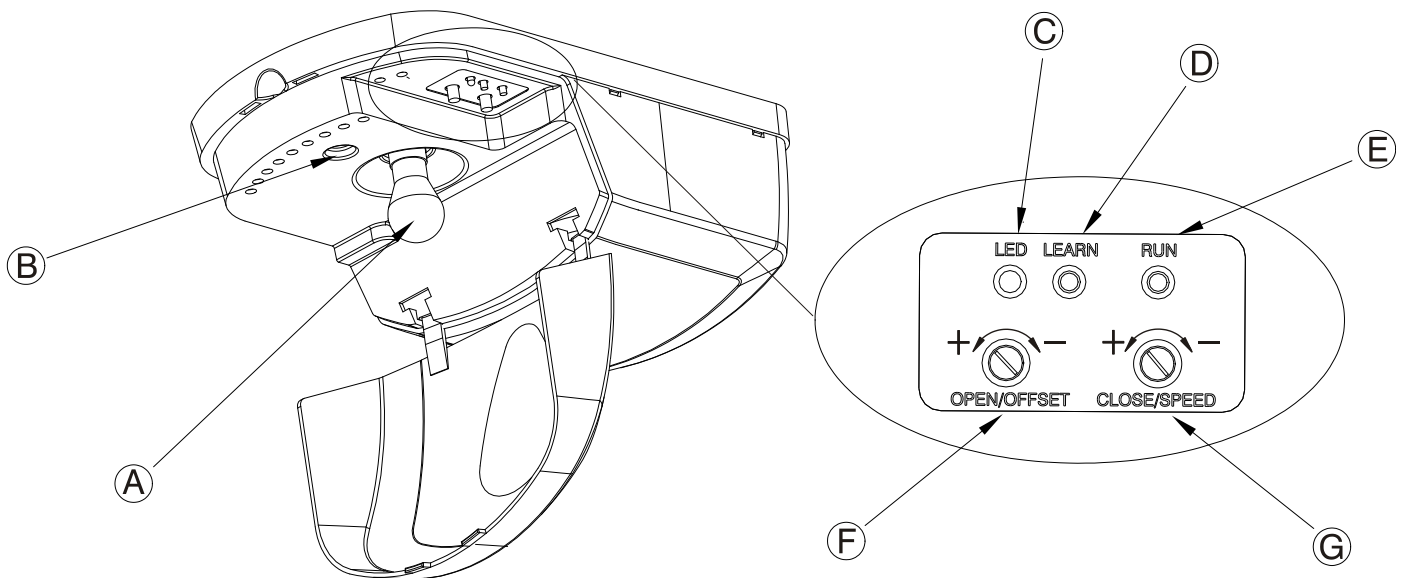

Fig. 18
- With the garage door in the **fully open** position, press the black “Run” Button (Fig.18-F) so that the garage door begins to close.
- As the garage door is closing - slowly turn the (red) Close / Speed Adjustment Pin (Fig.18-F) in an anti-clockwise direction until the garage door stops and begins to Safety Reverse.
- If the AGDO stops but does not reverse then turn the (red) Close / Speed Adjustment Pin 5 degrees in an anti-clockwise direction. (Fig.18-F)
- Will display green when power supply is active (Fig.18-C)
- In the event of prolonged power outage the AGDO will automatically shut down (when battery voltage drops below 23 volts) in order to conserve remaining voltage - LED Indicator (Fig.18-C) will extinguish and the AGDO will cease to function.
- iii. remove the Control Box Cover Lock Screw point (Fig.18-B) Note: the Control Box Cover can be removed once the head of the screw is protruding by approx 5mm.
- Hinge open the Courtesy Lamp Cover to expose the bulb (Fig.18-A)
- i. hinge open the Courtesy Lamp Cover to expose the “Learn” Button (Fig.18)
- iii. momentarily press the “Learn” Button (Fig.18–D) – LED Indicator will glow solid (Fig.18–C)
- ii. momentarily press the “Learn” Button (Fig.18–D) – LED Indicator (Fig.18–C) will glow solid
- The Learn” Button (Fig.18 - D) is located within the Lamp Cover adjacent to the “Learn LED” and serves to initiate the functions as described in the following table;
- The LED Indicator (Fig.18-C) is located under the Courtesy Lamp Cover and serves to indicate the functions as described in the following tables;
- The black “Run” Button (Fig.18-E) is located under the Lamp Cover and serves to initiate the functions as described in the following table;